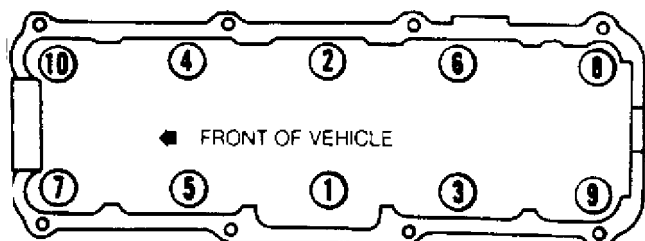

Fig. 1: Cylinder Head Bolt Tightening Sequence
6) Loosen timing belt tensioner. Remove timing belt from camshaft sprocket. Loosen head bolts in reverse order of tightening sequence. See Fig. 1. Remove cylinder head with manifolds attached.
5) Install cylinder head with manifolds. Install head bolts Nos. 8 and 10 to align cylinder head. Install remaining head bolts. Polygon stretch head bolts must be sequentially tightened in 3 stages with engine cold. Tighten head bolts in proper sequence. See Fig. 1.